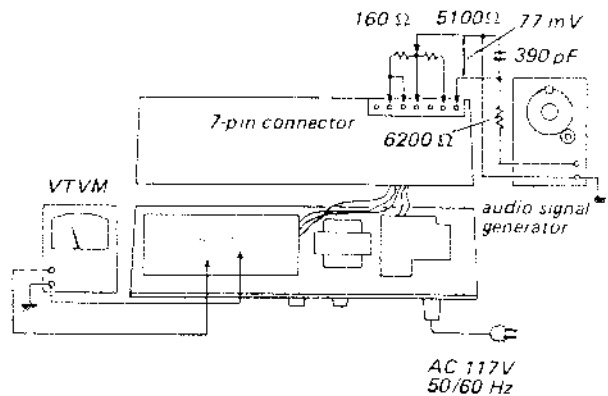

Fig. 6 Trap coil adjustment setup
- 1-1. Make the test setup as shown in Fig. 6 and 7.